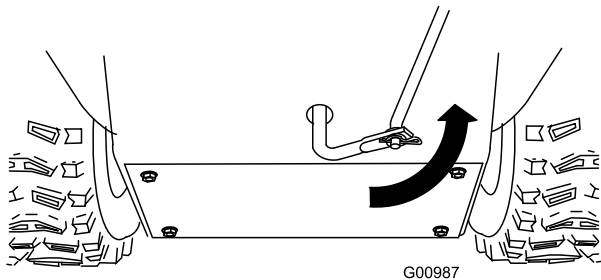

Figure 12
- Rotate the lower link arm fully upward (counterclockwise) (Figure 12).